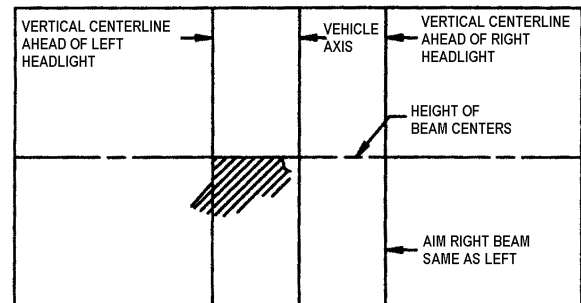

FIGURE 34: LOWER BEAM HIGH-INTENSITY ZONE PROPER LOCATION ON SCREEN 06504
6. Low beam headlights are aimed so that the top edge (the cutoff) of the high-intensity zone is at the vertical location as per Table 1 and the left edge of the high-intensity zone is at the vertical centerline of the headlight (Fig. 34).